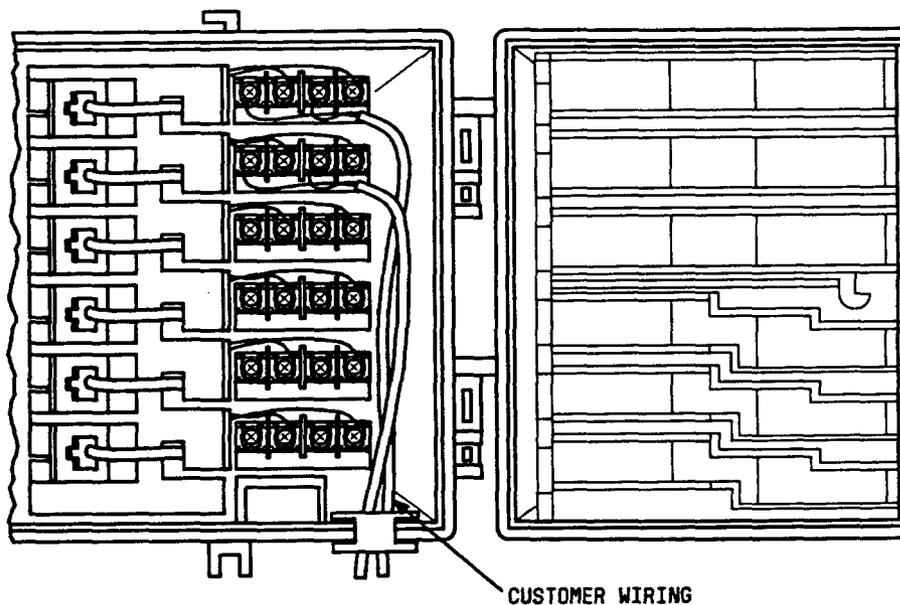

Fig. 18—Installing Customer Wiring
- (1) Open outside customer access cover using a 216 tool.
- (2) Open network side using a KS-19192, L1 wrench.
- (3) Swing security cover framework to open position as shown in Fig. 18.
(4) Puncture grommet and route customer wire to assigned customer.
(5) Connect customer pairs to customer bridge terminals using wire color code and bridge tab color code (red wire to red tab; green wire to green tab, etc.).
(6) Dress customer pairs on right side of box.
(7) Swing security cover framework to closed position.
(8) Close covers.